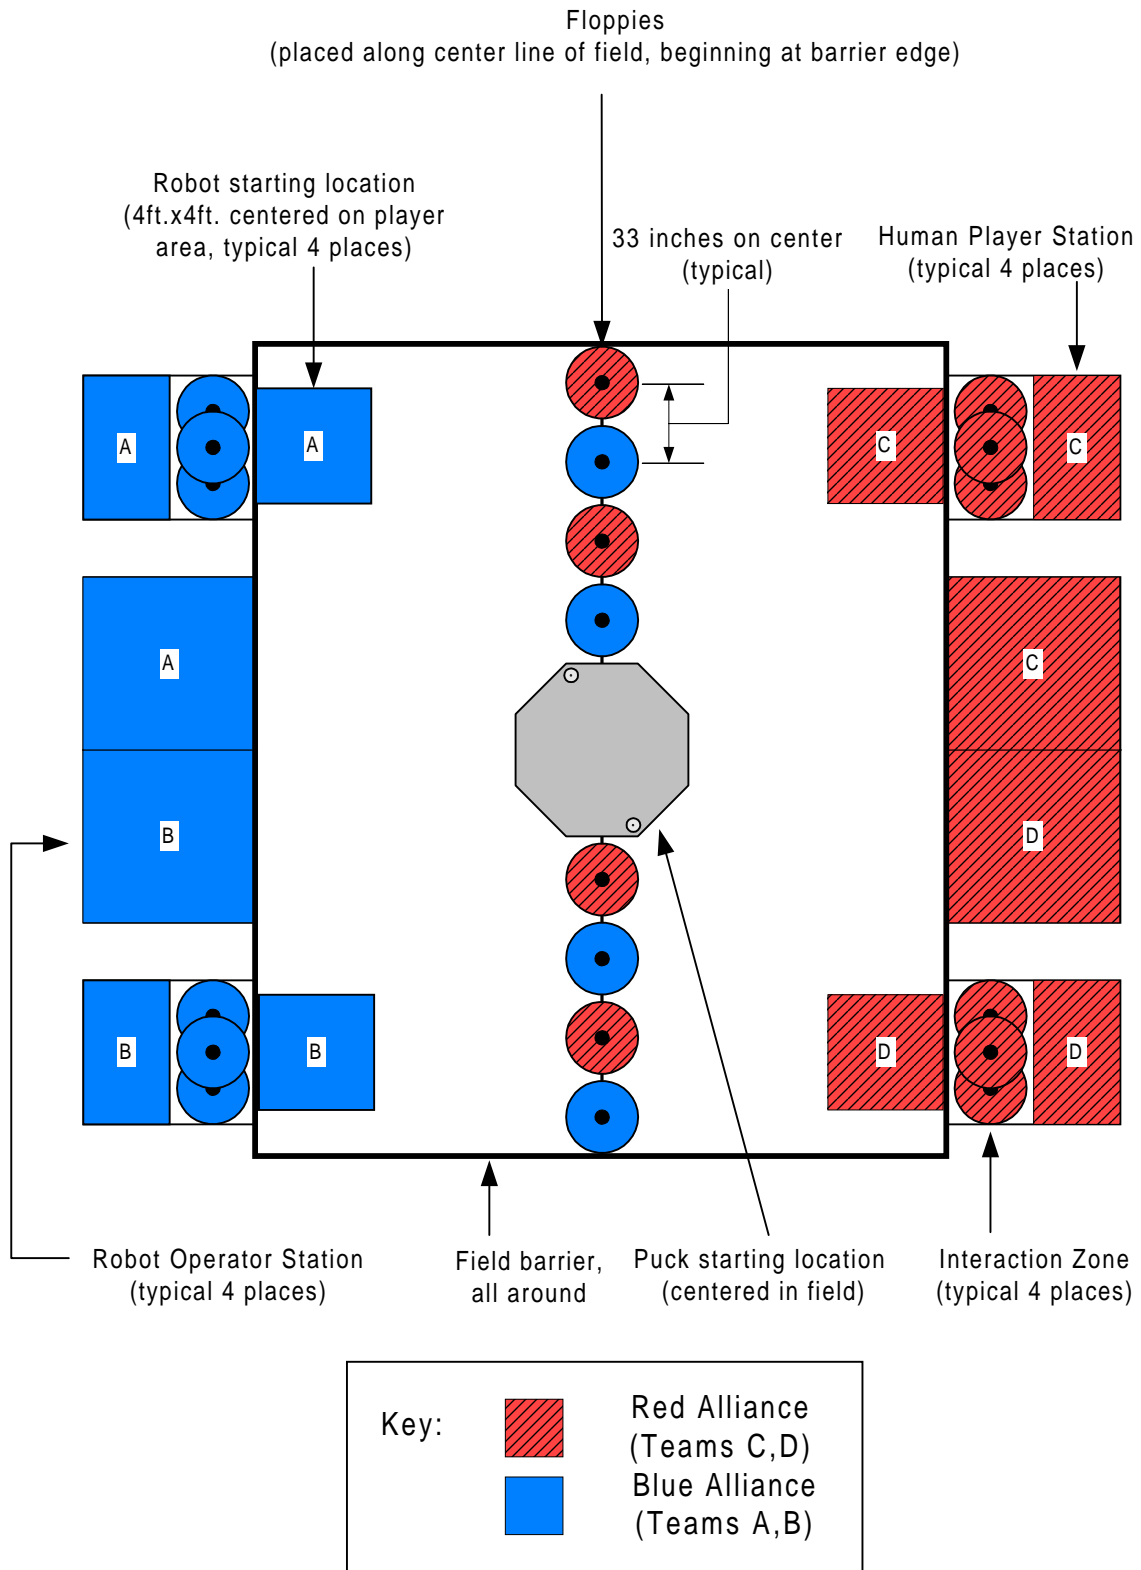

Figure 1.1: Playing Field Layout
The placement of teams' robot operator stations, human player stations, and starting locations of the floppies, puck, and robots are shown in Figure 1.1. Please note that Figure 1.1 may not be drawn to scale and is not intended for use during playing field construction. For playing field dimensions, please refer to the field parts list documentation that is supplied with the manual at the Kick-Off Workshop.
The playing field is a carpeted, rectangular area with an octagonal rolling platform. Around the perimeter of the field are four stations for human players, and four stations for robot operators and coaches. Prior to the start of each match, the puck and floppies are placed in specific starting locations on the playing field and at the player stations, as shown in Figure 1.1.
There are four human player stations located outside the perimeter of the playing field. The player stations are located near the corners of the field as shown in Figure 1.1. The playing field barrier extends across the player station locations at the breaks in the 4x6 playing field borders at the interfaces between the field and player stations. This barrier is just high enough to allow floppies to be pushed into the player station without allowing robots in. Aside from these barriers, the player stations have no physical structure. Player station borders are represented by tape on the floor.
- P2. At least 2 minutes prior to the start of each match, teams will be notified of their field positions, and alliances will be assigned a unique color. This color will be used to determine the placement of the alliances' robots, human players, and robot operators & coaches around the playing field. Figure 1.1 in Section 1.2.3 shows the color-based layout of the playing field.
- P25. Each alliance will start with 3 floppies in the interaction zone of each player station, and 4 floppies on the playing field. The playing field floppies will be arranged as shown in Figure 1.1 in Section 1.2.3.